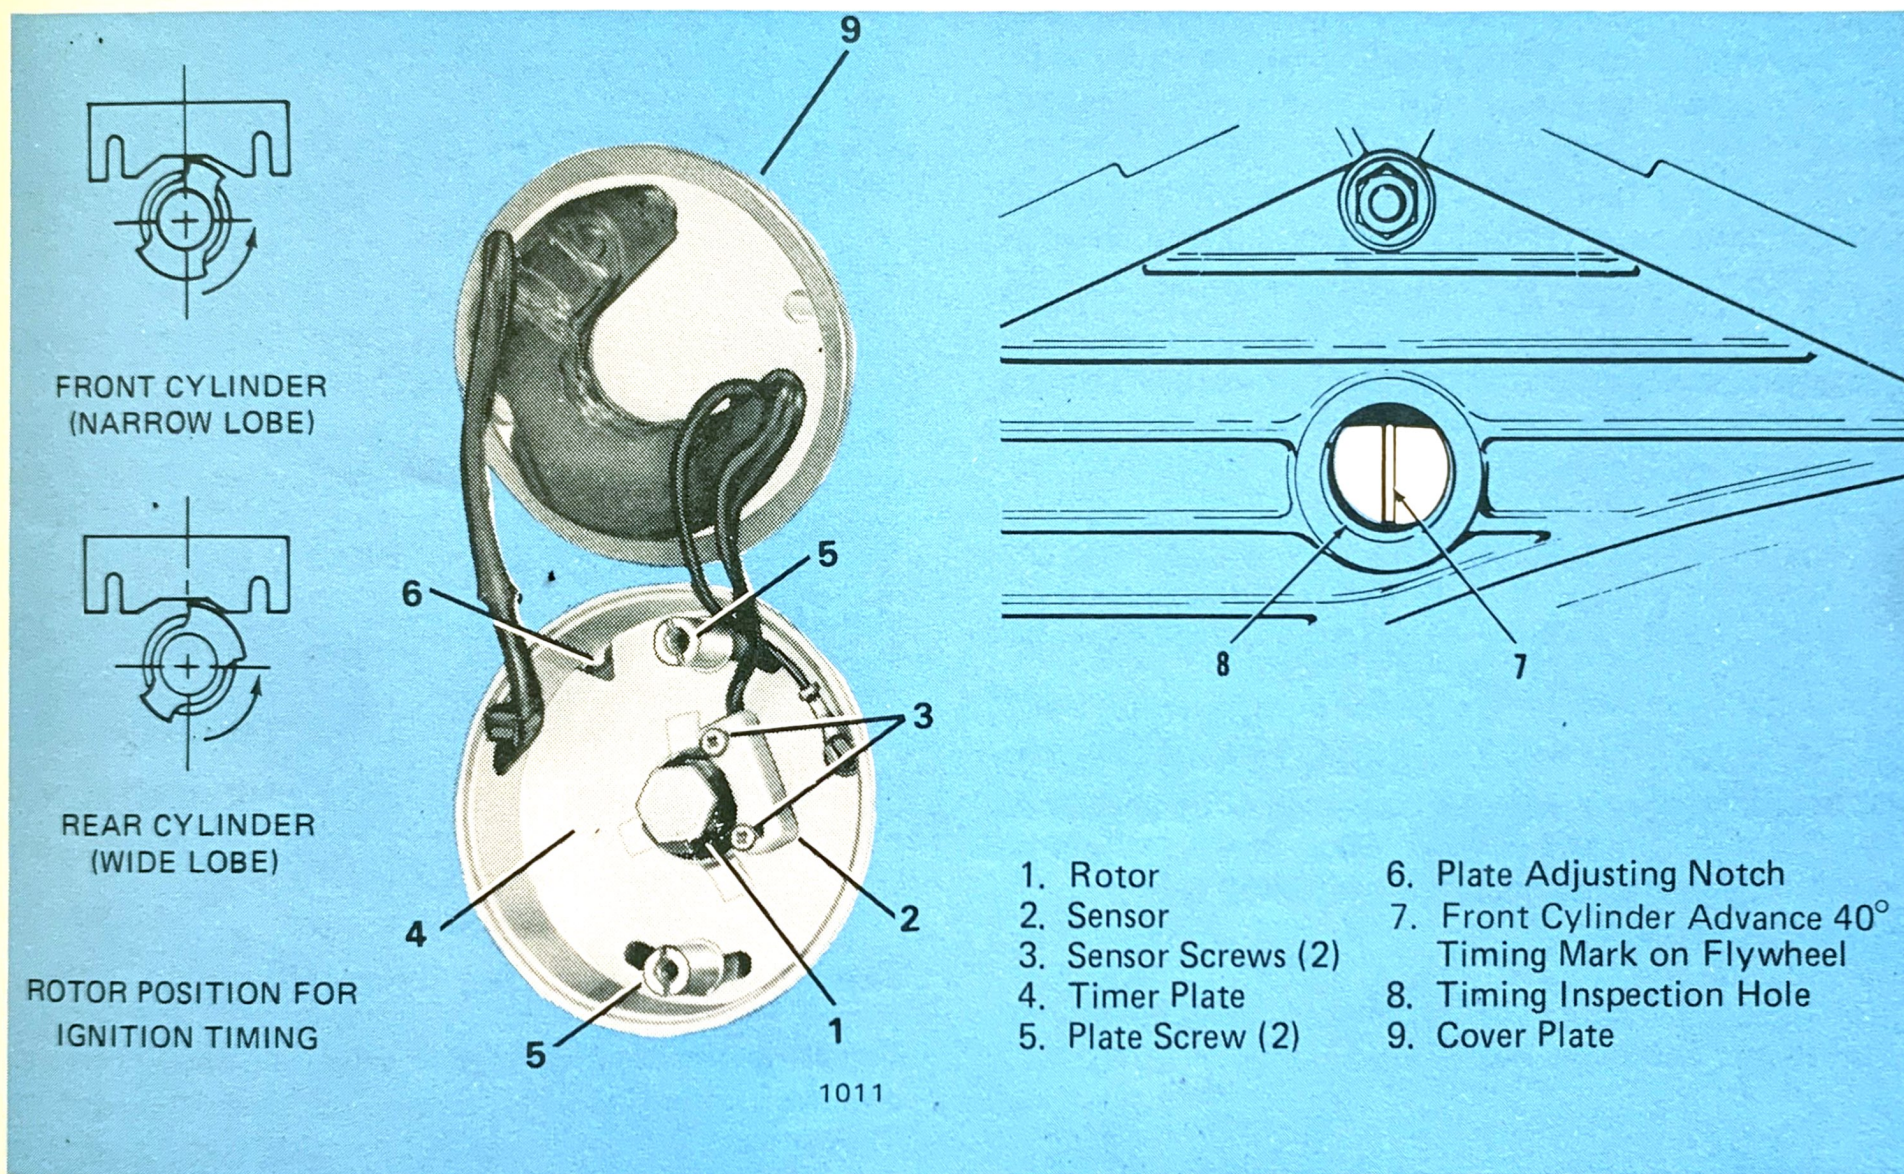

FIGURE 14. CIRCUIT BREAKER AND TIMING MARKS
### Ignition Timer Air Gap (See figure 14)
### Ignition Timing (See figure 14)
### Setting Timing With a Circuit Tester (figure 14)
Loosen timer plate screws (5) so they are just snug and shift timer plate (4) so that centerline of the sensor body is aligned with the leading edge of the narrow lobe on the timer rotor as shown in figure 14.